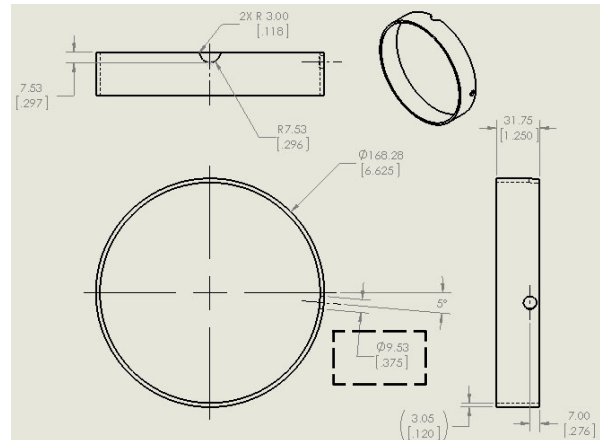
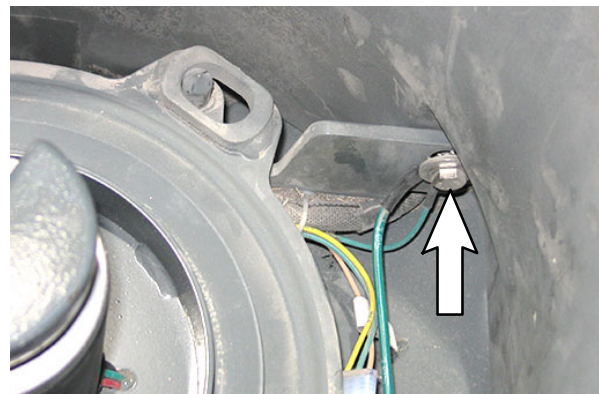

FIG. 7
FIG. 9
4. Drill another 0.375 in. (9.52 mm) into the filter weldment (for installing cable tie to secure the black wire (5)). (Fig. 7)
7. Place the filter shaker assembly back into hopper and connect the other end of the black wire (5) to existing hardware in the hopper. (Fig. 9)
8. Use a cable tie to secure the black wire (5) to the filter weldment and away from the moving parts on the filter shaker assembly. (Fig. 7/ Fig. 8/ Fig. 9)